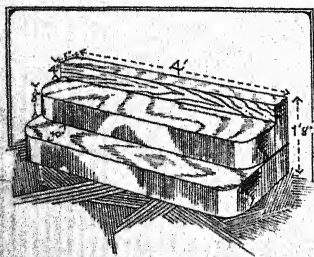

Fig. 1.
**Posing Steps for the Studio.**—L. G. Sandys has devised a simple studio accessory for posing full length portraits. It consists of two steps with a smaller top back portion. Fig. 1